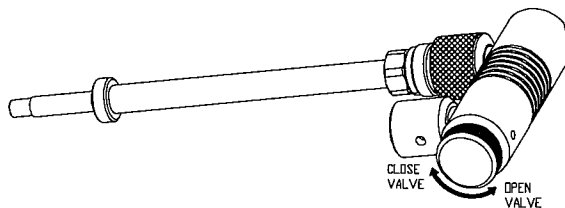

FIG. 2
4. Close the 1077 Adapter valve at the bottom of the adapter by tightening the valve until it stops. (see Figure 2) Always make sure that the adapter valve is closed before attempting to install or remove it from the airgun, or before removing or installing AirSource CO2 cylinder.
2. Close the 1077 Adapter valve at the bottom of the adapter by tightening the valve until it stops. (see Figure 2)
6. Open the 1077 Adapter valve by turning the valve until it stops. (see Figure 2)
3. Close the 1077 Adapter valve at the bottom of the adapter by tightening the valve until it stops (see Figure 2)
2. Close the 1077 Adapter valve at the bottom of the adapter by tightening the valve until it stops (see Figure 2)